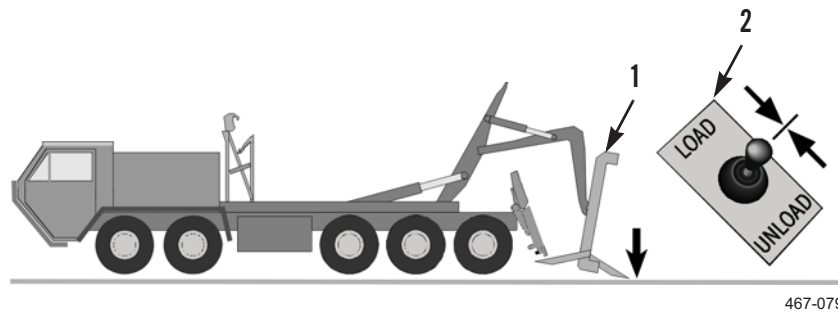

Figure 17. Lift Frame at Initial Contact with Ground.
6. Release joystick (Figure 17, Item 2) when lift frame (Figure 17, Item 1) makes initial contact with ground (lift frame is at an angle to ground).